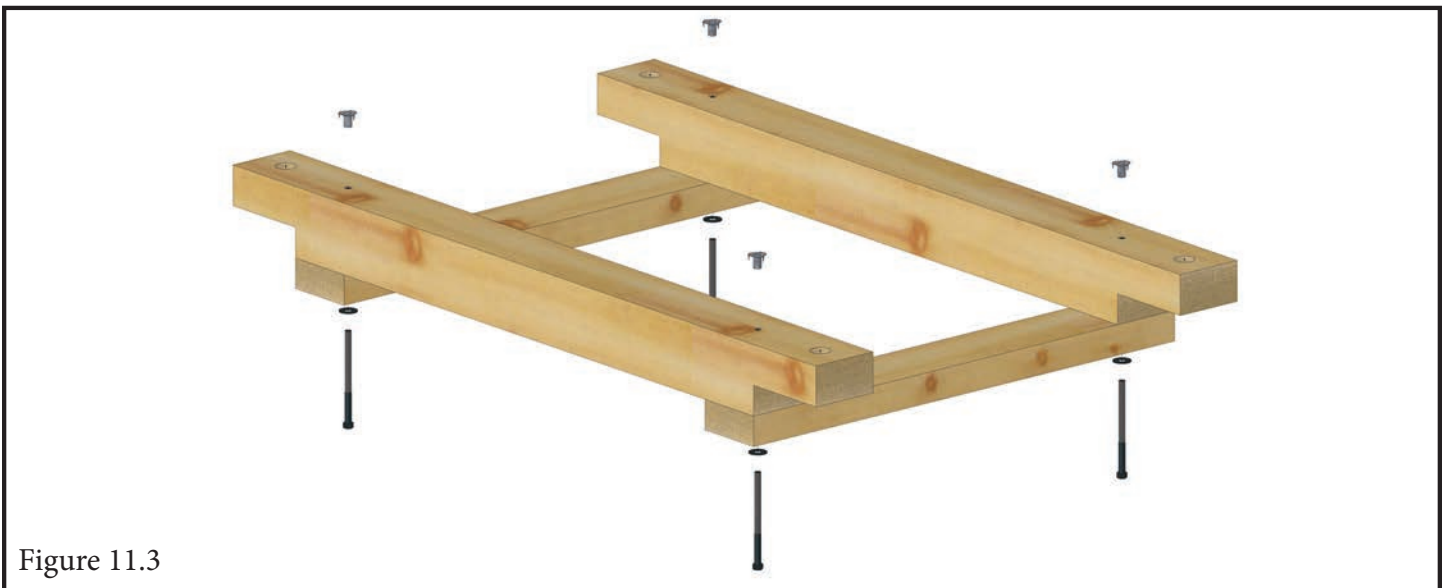

Figure 11.3
11.3 Fasten GW Deck Supports (2) to Bridge Supports 40" with 5/16 x 4-1/2 Hex Bolts and 5/16 washer into T-Nut as shown in Figure 11.3.